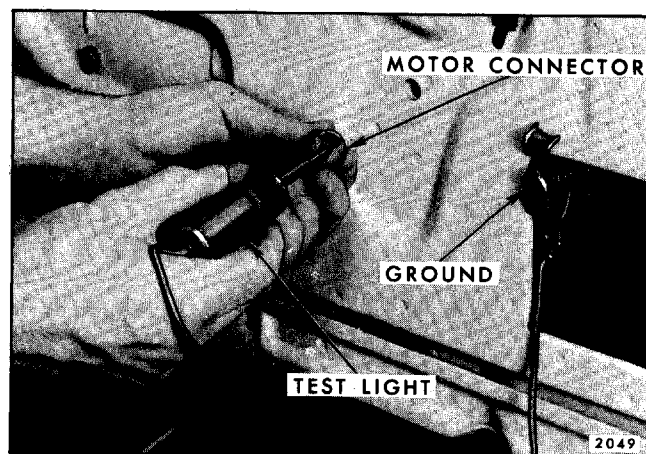

Fig. 10-11-Checking Circuit Between Switch and Motor
3. With test light, check for current at motor harness connector terminal being tested. If tester does not light, there is an open or short circuit in the harness between the control switch and motor connector (Fig. 10-11).
2. With a test light, check for current at the corresponding terminal at the motor harness connector. If tester does not light, there is an open or short circuit between control switch and motor connector (Fig. 10-11).